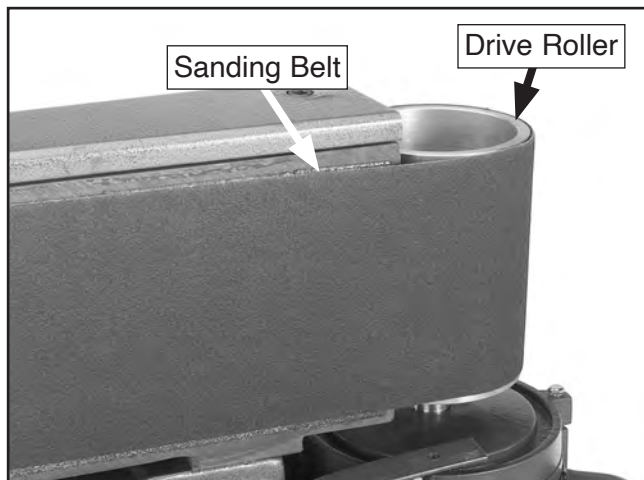

Figure 39. Sanding belt even with top of drive roller (dust port removed for clarity).
- If top of belt *does* stay even with top of drive roller (see **Figure 39**), no adjustment is necessary.